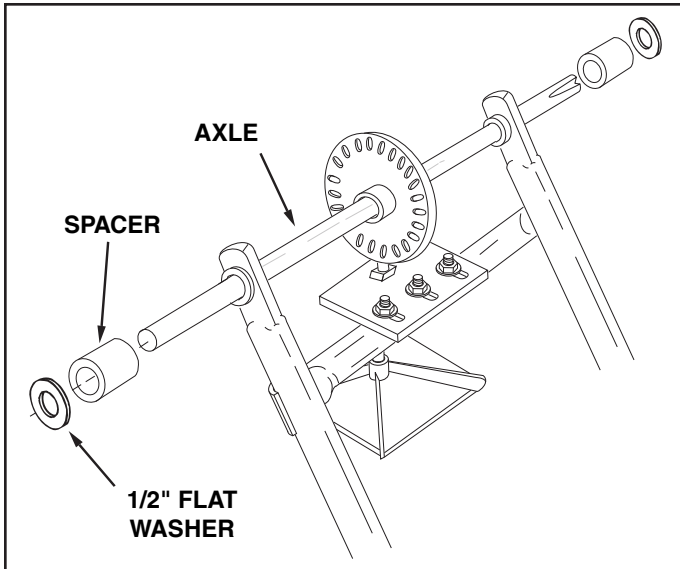

FIGURE 1
2. With the spreader resting upside down on the top of the hopper, assemble a spacer and then a 1/2" flat washer onto each end of the axle. See figure 1.